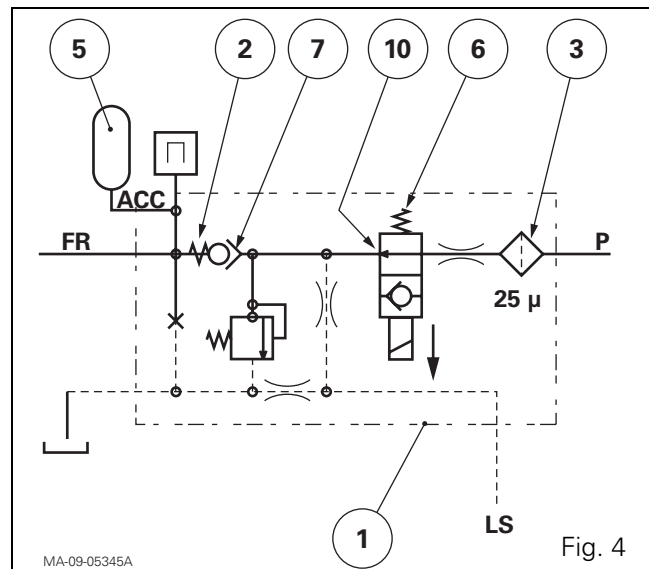

Fig. 4
Hydraulic (Fig. 4 and Fig. 5).
Electronic (Fig. 4 and Fig. 5).
Connection phase (Fig. 4)
If the pressure in the high-pressure braking system and the block/valve assembly drops below 70 bar, the tractor's electronic system is informed of the fault and locks the braking system in degraded mode. In this case, the tractor's forward speed is systematically restricted. A connection time of 16 seconds is then assigned to the braking system for each action on the brake pedals. During this connection time, the accumulator (5) fills to make the hydraulic lines (FR) and (ACC) safe (Fig. 4) (for more details, see chapter 11).